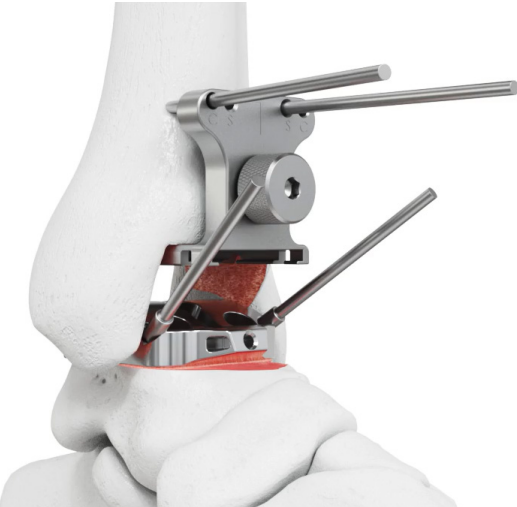

Fig. 24
2.8 Insert two K-Wires into the tibial trial. Use the converging hole (top row) on the lateral side and the straight hole (bottom row) medially. Remove the Thickness Trial (Fig. 24)